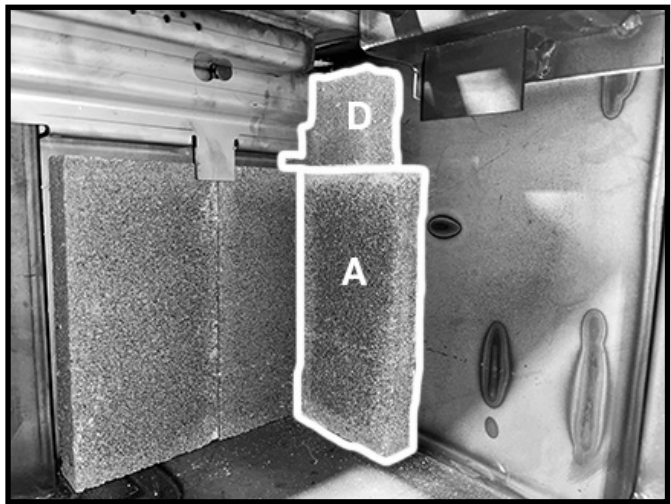

Figure 9. 1st side wall bricks in place.
4. For the side walls: Slide a "D" firebrick up into the back corner of the firebox then, while holding it in place, stand an "A" firebrick against the side wall under the "D" firebrick and up against the rear wall firebrick Figure 9.